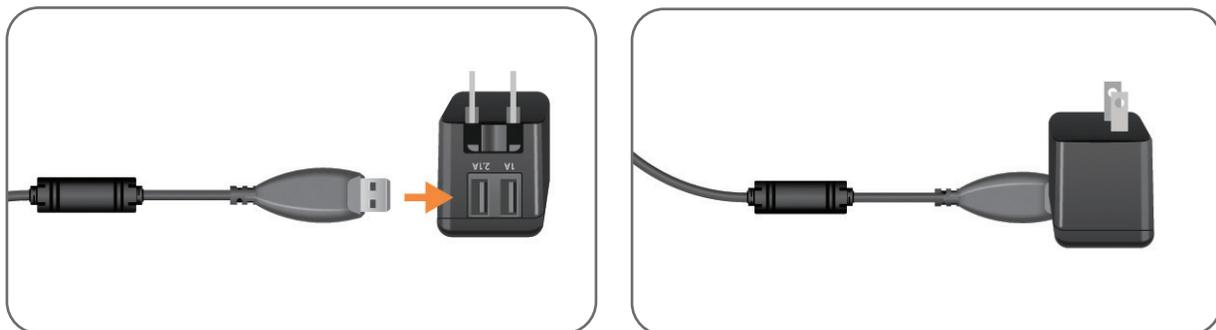

Figure 4-5: Inserting USB Charging Cable into AC Adapter
2. Insert the USB end on the charging cable into any of the two available USB ports on the AC adapter. If you are charging both the right and left Thigh Cuff, connect an additional USB charging cable to the AC adapter. See Figure 4-5.